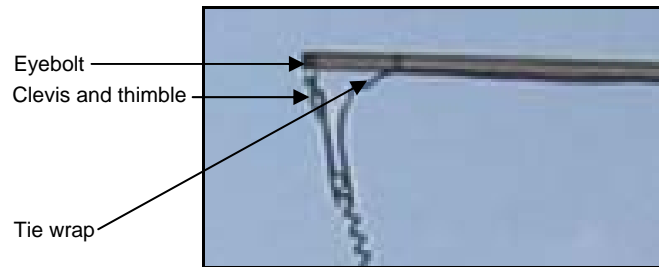

Figure F-2. Coiled Cable Attached to 1-inch Conduit
5. Attach the coiled cable to the end of the rigid conduit using one thimble, eye bolt, and clevis from the load cable support kit by doing the following (see Figure F-2):